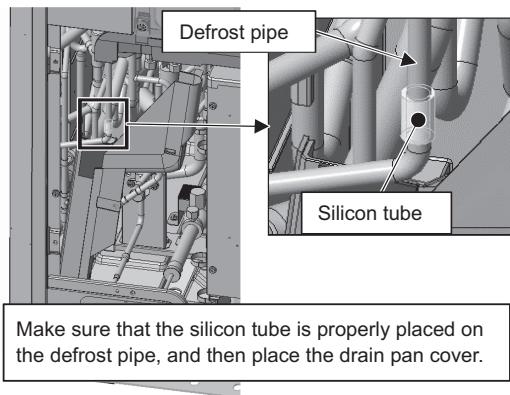

Figure 9
- (3) Make sure that the silicon tube is properly placed on the defrost pipe, and then place the drain pan cover. Place the drain pan cover along the defrost pipe, and fit it to the drain pan. (See Figures 9 and 10.)